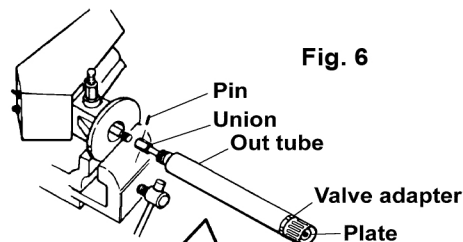

Fig. 6
- 4) Fix the pump assembly on vise. (Fig.6)
- 5) Set a spanner on the valve adapter and unscrew it. The out tube can be pulled out from the pump. Then continue to pull out it until touching to the plate, the union that connects to the motor. Pull out the pin and unscrew the union, and the lower pump can be separated from the motor. (Fig. 6)
- 6) Pull out the out tube. If only the valve adapter pulled out, unscrew the nut and remove the plate. Then pull out the out tube and screw the suction tube with pipe wrench (set on notched part of the suction tube). Pull out the pin and unscrew the union, and the lower pump can be separated from the motor. (Fig. 6, 7)
(Fig. 6)